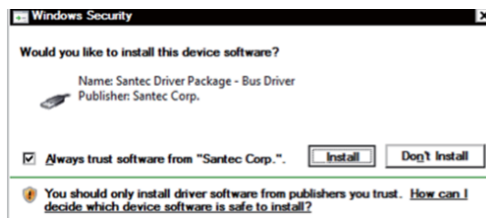

Figure 7-2-3-5. Windows security message
6. Installation is completed successfully when Figure 7-2-3-6 appears. Click on "Close" to exit the installation.